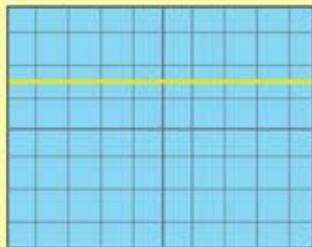

Figure 6.17
- Turn on the time-base knob. Observe and record the trace displayed on the screen as shown in Figure 6.17.